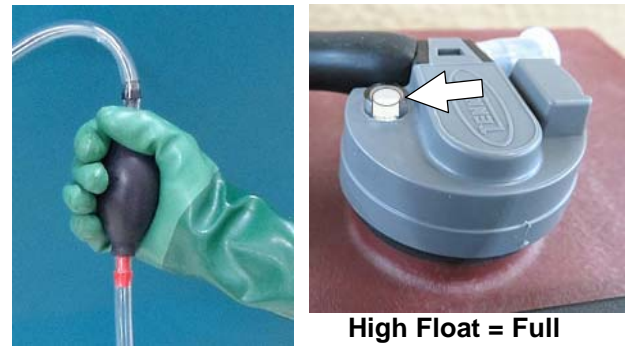

FIG. 85
6. Squeeze the bulb on the hand pump hose until firm. The indicator float will rise when full (Figure 85).